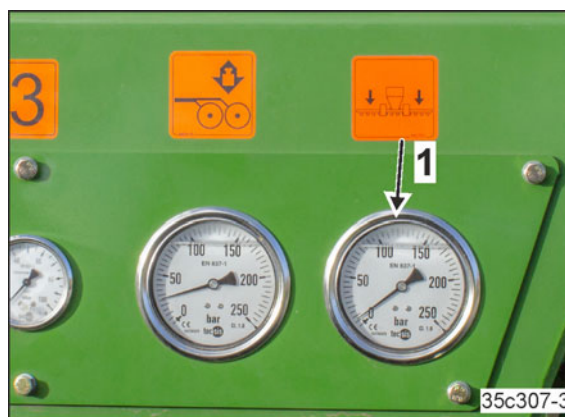

Fig. 178
- The pressure gauge for loading the sections (Fig. 178/1) is now at 0 bar.
4. The pressure gauge (Fig. 178/1) shows the set section pressure.